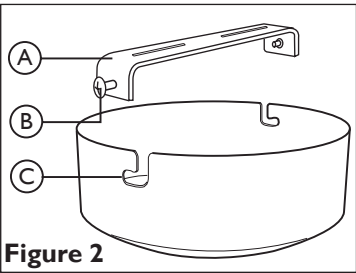

Figure 2
Refer to Figure. 2 Remove the fixing bracket (A) from the ceiling cover by removing the side screws.
Refer to Figure 4. Attach the product to the ceiling. This product has “L” shaped fixing slots (C) to allow easy attachment to the fixing bracket, as shown in Figure 2. Locate the “L” slots around the small screws (B) on the fixing bracket (A). Rotate the ceiling cover to attach the product to the bracket. Tighten the screws to secure. Take care not to trap any wiring.